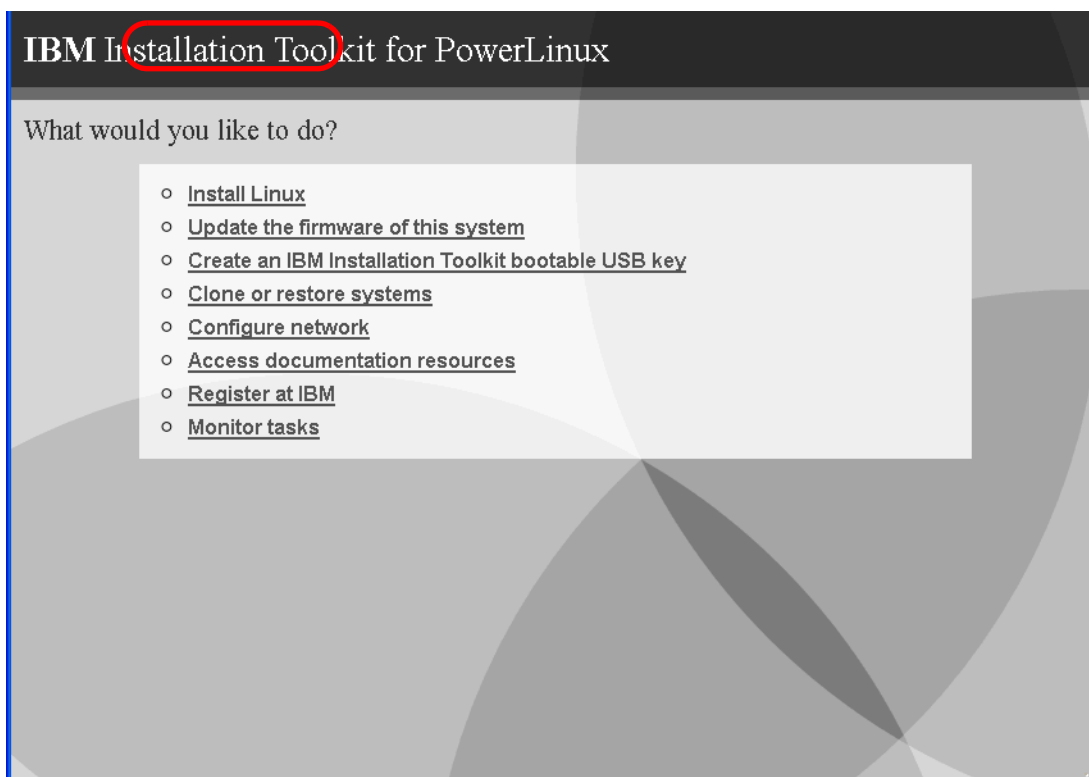

Figure 12-11 IBM Installation Toolkit for PowerLinux main menu
15. The toolkit main menu opens, as shown in Figure 12-11. Choose **Install Linux**.